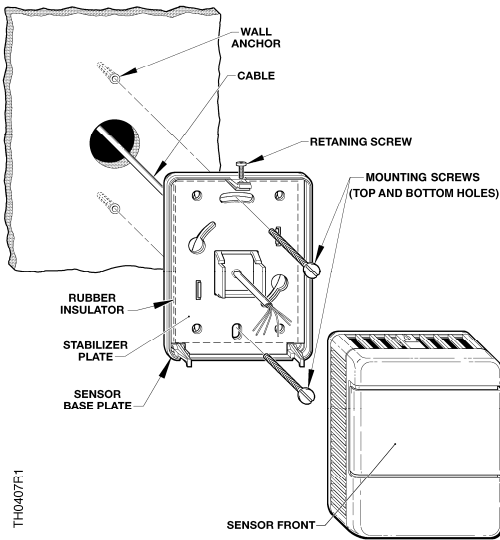

Figure 1. Drywall Mounting (No Rough-in), Typical.
1. Using the sensor base plate as a template, mark the center field wiring hole and the mounting hole locations (Figure 1).
10. Tighten the sensor front retaining screw (Figure 1).